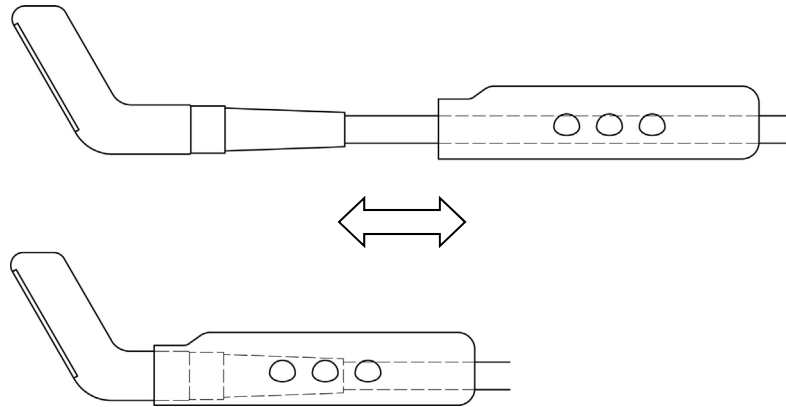

Fig.3 Attachment/detachment of the handle
- 4) To use the probe with the handle, attach the handle to the probe as shown in Fig.3. First attach the handle to the cable and then slide toward the head. Make sure that the handle is fit to the head properly. For detachment, reverse the procedure.